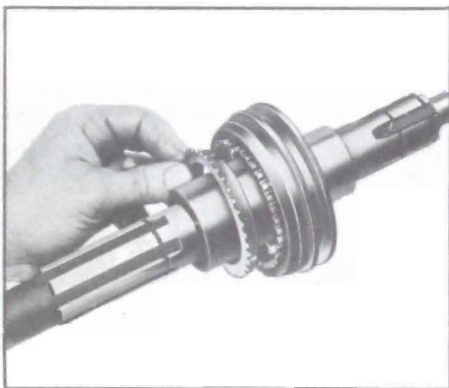

Figure 4-67—Installing Synchronizing Ring
2. Install the first speed gear synchronizing ring so the notches in the ring correspond to the keys in the hub. See Figure 4-67.